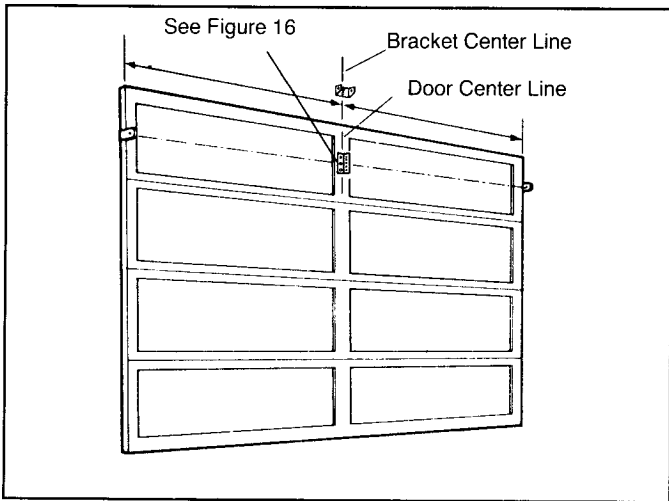

Figure 8. Center of Door.
Step 15: Determine center line of door, (Figure 8). Mark center line on header and top of door.
Step 22: Center the power head and channel in line with the header bracket. To accomplish this, align channel with pencil mark at the top-center of the door as shown in Figures 8 and 12.